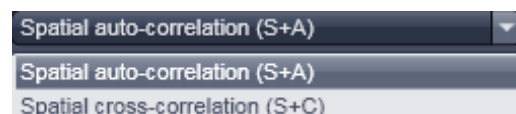

Fig. 432 Correlation drop down menu
- The correlation to be computed can be selected from the **Correlation** drop down menu (Fig. 432). For one channel recordings, only **Spatial auto-correlation (S+A)** is available, for a two channel recording in addition **Spatial cross-correlation (S+C)**.